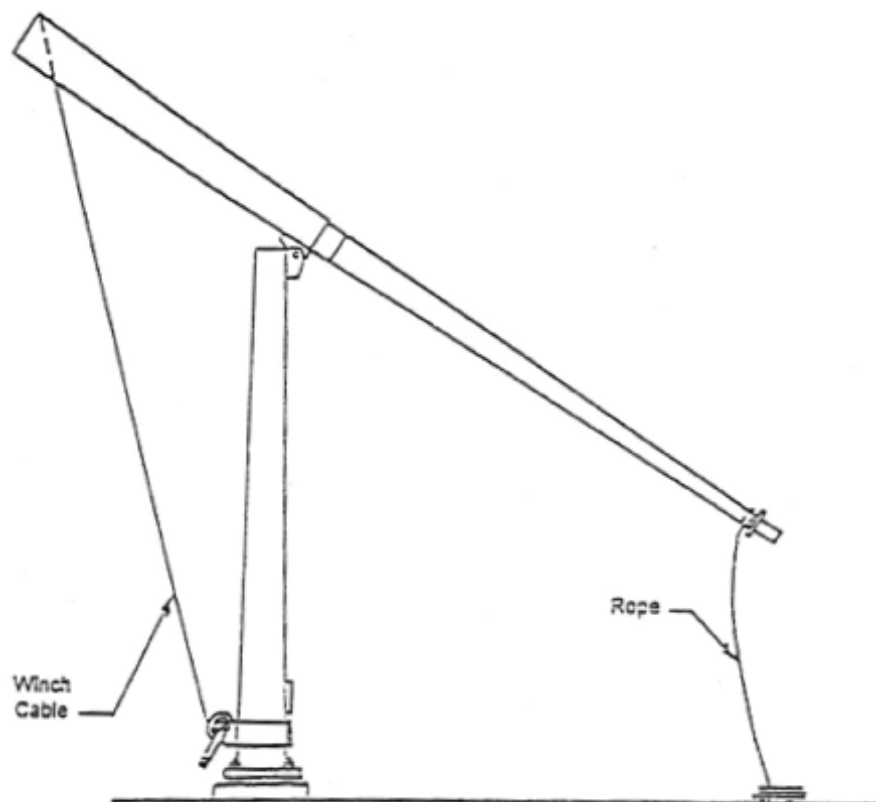

FIGURE 7
12. Pull on rope at top of pole while releasing cable from winch (FIG. 7).